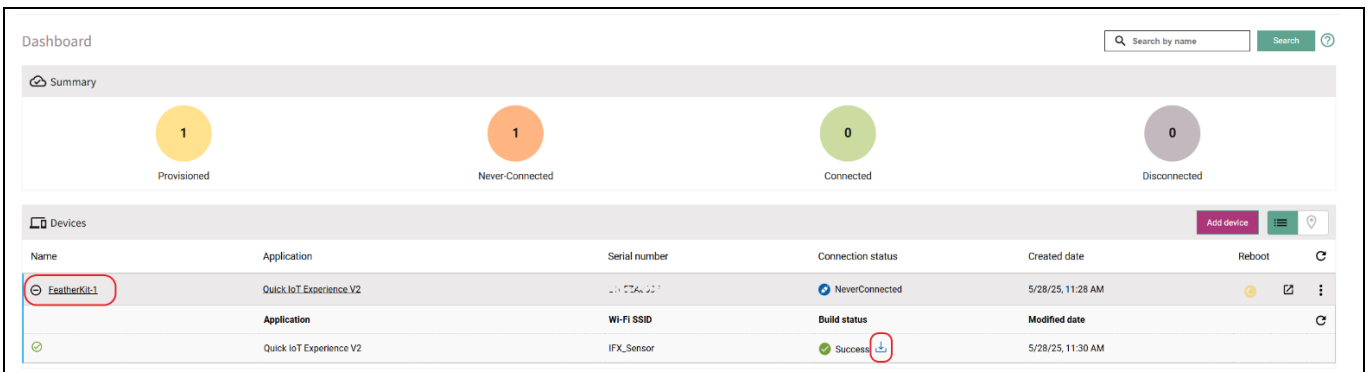

Figure 13 Device management dashboard
- After you click **Submit**, a custom *hex* file will be built for your device, and a software bundle will be generated for programming your development kit, as shown in Figure 13
Depending on your laptop or PC's operating system (Windows/Linux/Mac), you will receive a downloadable package that includes a *hex* file firmware image and a programming tool for your KIT_CSK_PASCO2_5V kit. The package will be in the form of a zip file. To view the detailed device status, click on the ⊕ (expand) button. To download the zip package, click ⬇️ (download) next to **Success** on the application as shown in Figure 13.